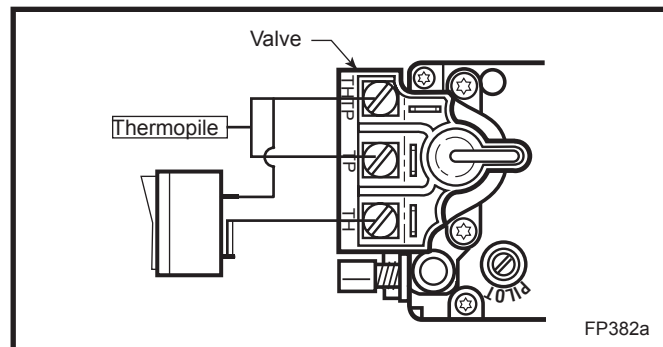

Fig. 8a ON/OFF switch or millivolt thermostat.
4. Connect wiring to gas valve (Fig. 8a & b) and switch.